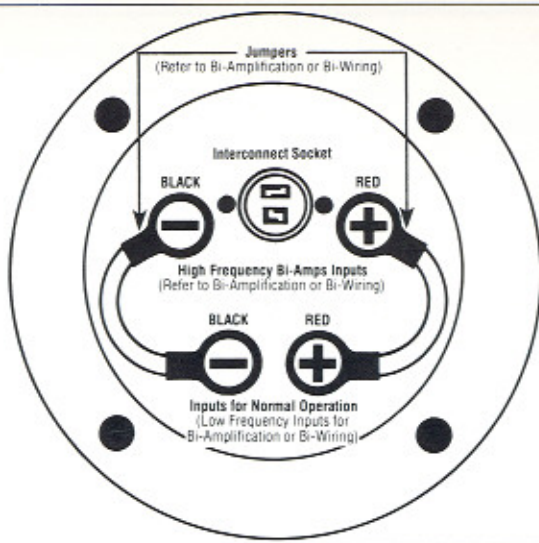

FIGURE 4. SDA SRS Terminal Plate
All electrical connections to the SDA-SRS are made via the terminal plate located on the rear of the cabinet (see figure 4).
4. Find the amplifier outputs. They will be marked + (plus) and - (minus), or will be colored red and black. Red corresponds to + (plus) and black corresponds to - (minus). Now, refer to figure 4 to locate the terminals on the speaker labeled "Inputs for Normal Operation."
The SDA-SRS is equipped with two sets of inputs to facilitate bi-amplification or bi-wiring. Both sets of inputs are located on the round input plate at the rear of the cabinet (figure 4). The high frequency inputs are the red and black terminals on either side of the interconnect cable socket. The low frequency inputs are the red and black terminals next to each other at the bottom of the round input plate. In normal use jumpers are used to connect the black terminals together and the red terminals together. The amplifier is then connected only to the lower set of red and black terminals.
The design of the SDA-SRS makes the use of an electronic crossover unnecessary. The two sets of inputs are designated "high frequency bi-amp inputs" and "low frequency bi-amp inputs," and are supplied with factory-installed jumpers for use in conventional single-amplifier hi fi systems. **THESE JUMPERS MUST BE REMOVED BEFORE MAKING ANY OTHER CONNECTIONS TO THE INPUTS IN A BI-AMPLIFIED SYSTEM. SERIOUS DAMAGE TO THE AMPLIFIERS OR TO THE SDA-SRS MAY RESULT IF THIS IS NOT DONE.** The jumpers are removed by unscrewing the colored plastic caps from the binding posts and removing the ring terminals. Be certain to re-install the colored plastic caps on the correct binding posts so as not to mislabel the phasing of the inputs (refer to figure 4).